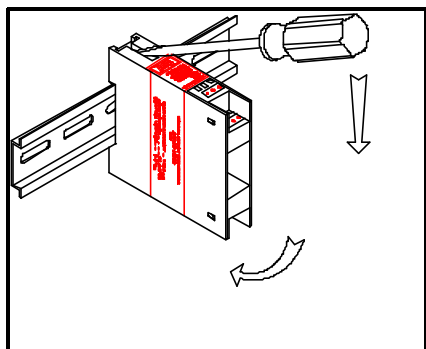

Figure 12-17
4. Pull the screwdriver downward to lift the spring tab from beneath the upper DIN rail edge as shown in Figure 12-17.